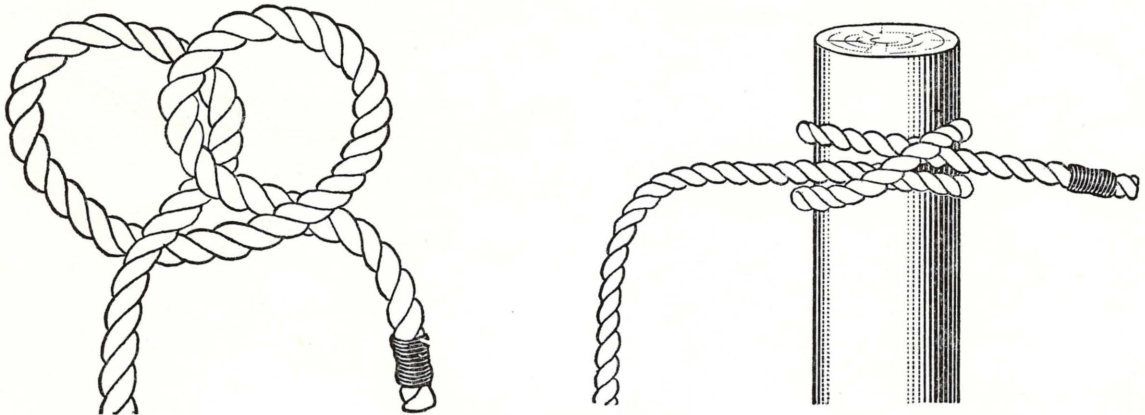

Fig. 537—The clove hitch
6. **The Clove Hitch.** Fishermen use the clove hitch to make a boat fast to a post. It will not slip easily, holds tightly, and may be untied easily. (See Fig. 537.)